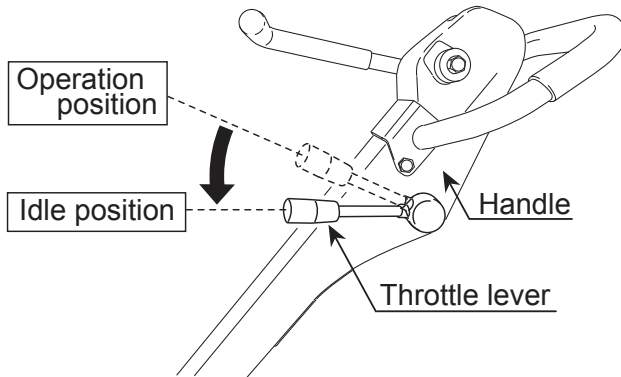

Figure 18. Throttle Lever (Idle)
1. Move the throttle lever to the *idle* position (Figure 18) and run the engine for three minutes at low speed.